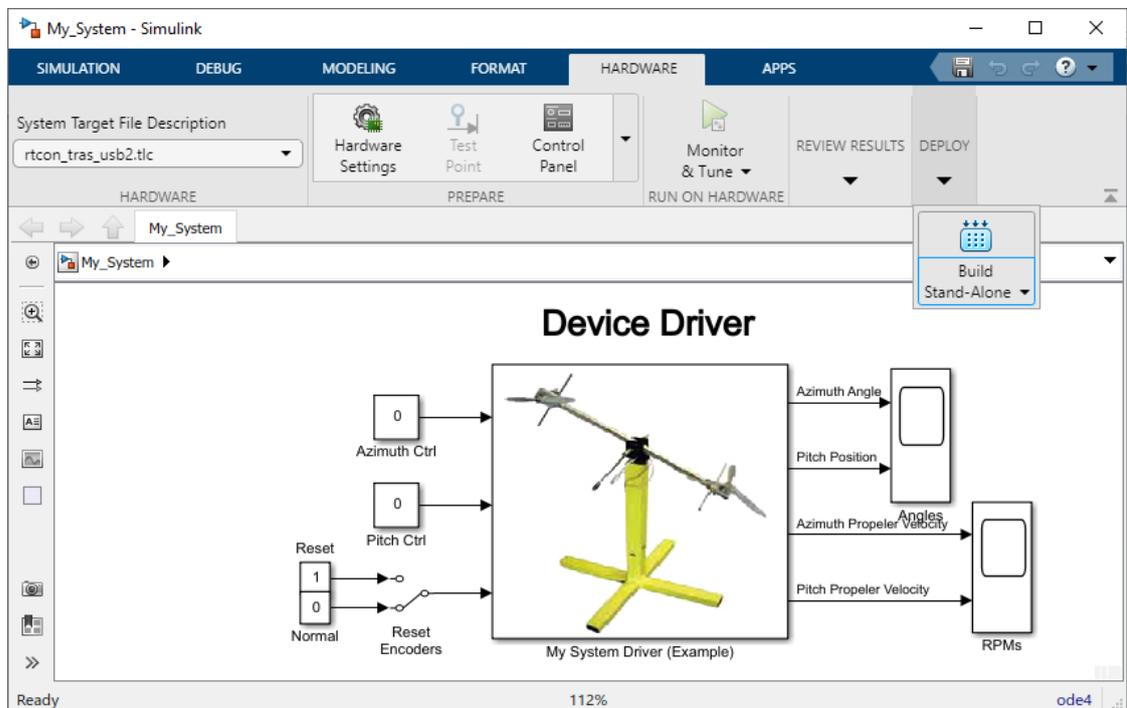

Fig. 6.6 Do not use this option !!
**Do not use option *Build Stand-Alone* shown in Fig. 6.6 for compilation .**